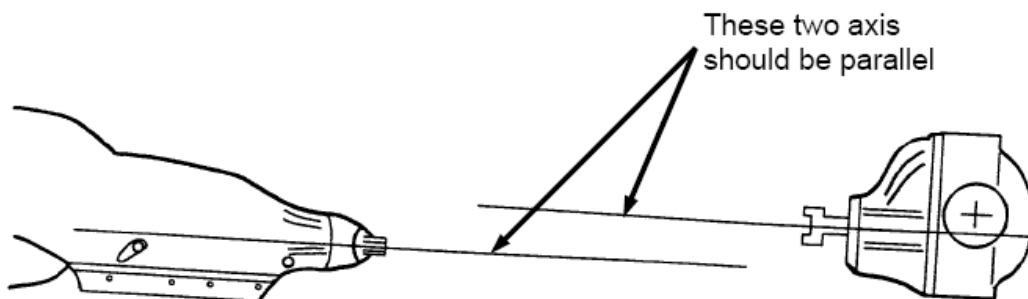

Figure 3- Set Pinion Angle
5. Position the axle housing into the frame. Rotate the housing to set the pinion angle to match the angle of the engine, see **Figure 3**. The engine angle must be set at this point. Adjust the bars to equal length. Assemble the bars, with the adjusters to the front, and axle brackets onto the housing using the 5/8-18 bolts and lock nuts supplied. The center-to-center dimension of the brackets is 38- 1/2". Make sure that both brackets are the same distance from the ends of the axle housing. The axle brackets should be tack welded to the housing, and the assembly double checked for square and correct pinion angle. Final welding should be performed by a qualified welder.